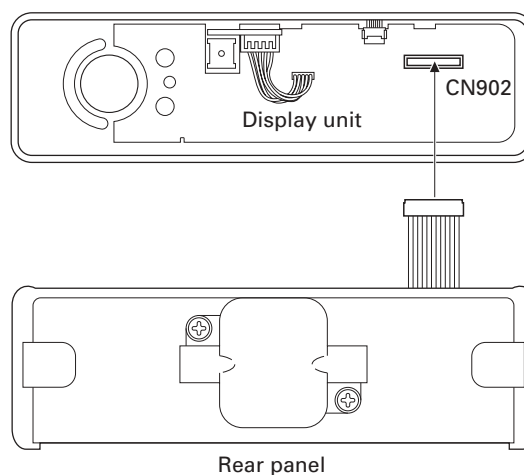

Fig. 5-2
6. Plug the 12-pin connector (from the rear panel) to the CN902 socket on the display PCB, as shown in Figure 5-2.